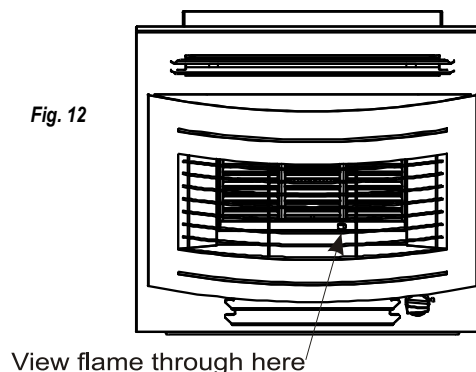

Fig. 12
3. The main burner and pilot can be viewed via the small round hole in the chrome trim just in front of the radiants **(Fig 12)**. **WARNING: do not get too close to the fire.**